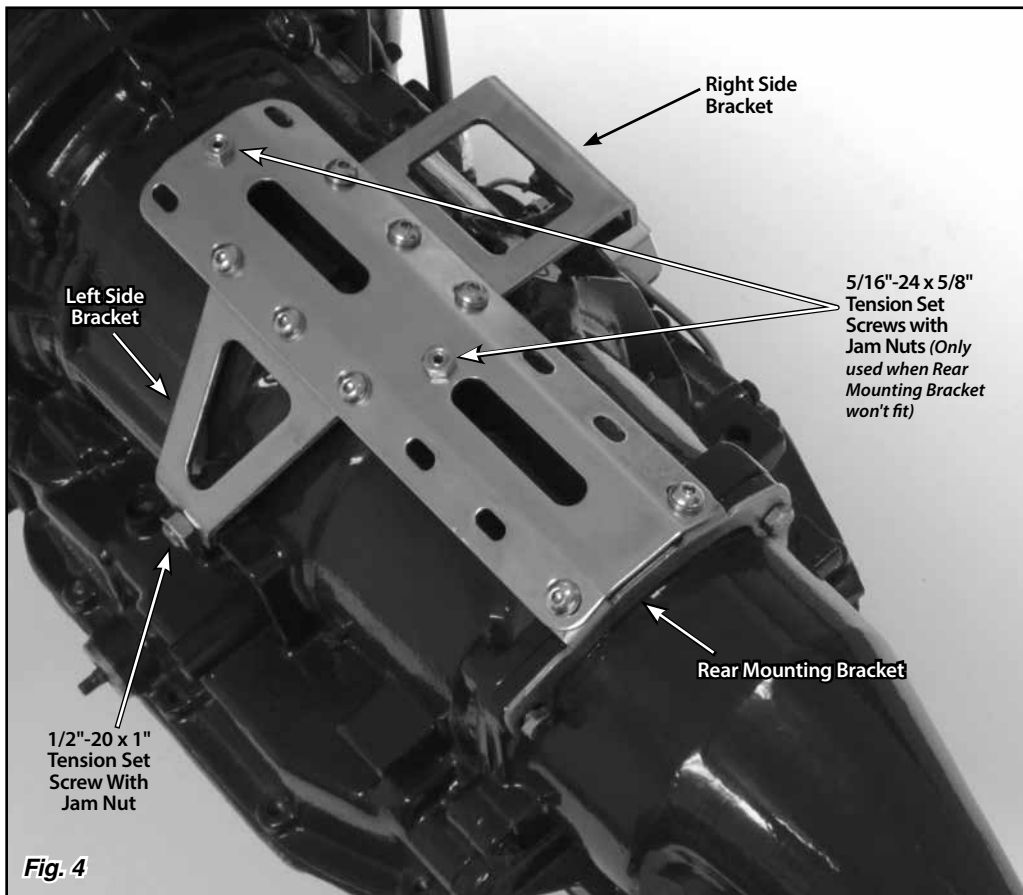

Fig. 4
**Step 5:** If you are using the rear mounting bracket, remove the top two tail housing bolts from the transmission. Install the mounting bracket assembly onto the transmission using the two original bolts through the rear mounting bracket and into the transmission at the tail housing. **Fig. 4** If you have a 4 wheel drive application that will not accept the rear mounting bracket, start the 5/16"-24 x 5/8" tension set screws into the tension set screw holes at the front and in the center of the shifter main plate. Set the mounting bracket assembly into place on top of the transmission. **Fig. 4**